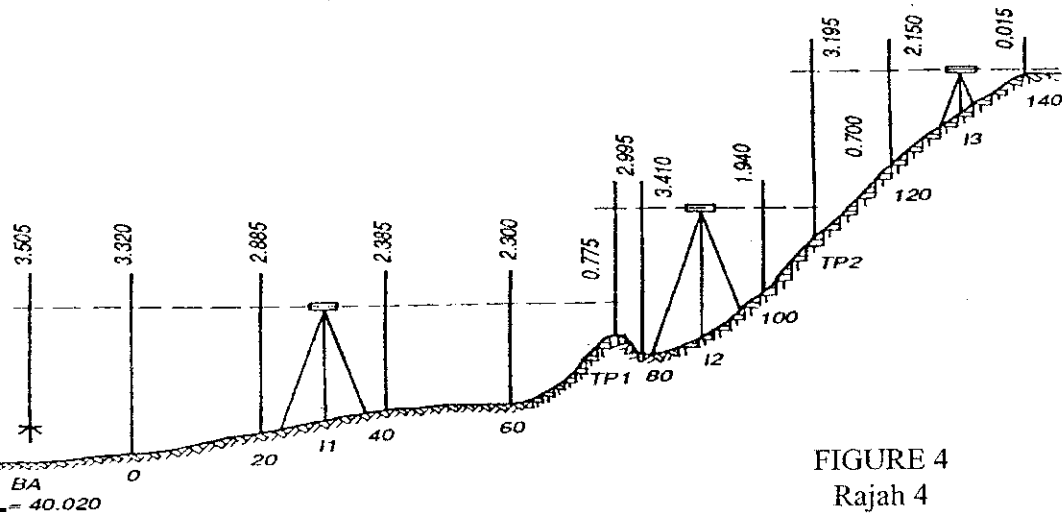

FIGURE 4
Figure 4 shows the longitude section of a leveling survey.
- e) Based on Figure 4, complete the table of leveling survey work by using Appendix 3 on page 11.